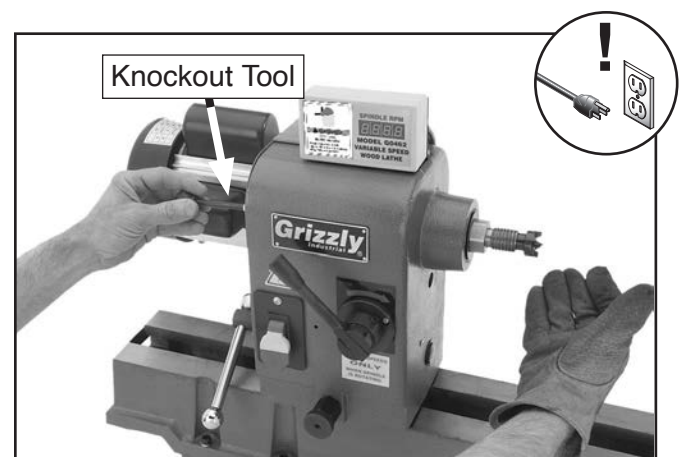

Figure 20. Example of removing headstock center with knockout tool.
3. Insert knockout tool through outbound end of spindle and firmly tap back of center, catching it as it falls, as shown in **Figure 20**.
7. With workpiece still attached, insert spur center into headstock spindle (refer to **Figure 20** on **Page 24** for additional instructions).
8. Install live center into tailstock quill and tighten quill lock handle to lock quill in position (refer to **Figure 20** on **Page 24** for additional instructions).